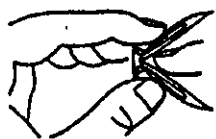

Figure 9-Folding Anchor
2. Fold wall anchor as shown in Figure 9 below.